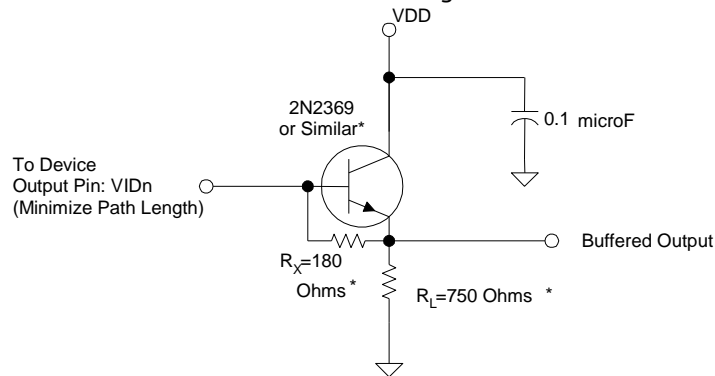

Figure 16: Typical Output Bias/Buffer Circuit
1. A current sink must be supplied for each output. Load capacitance should be minimized so as not to limit bandwidth.  $R_x$  serves as the load bias for the on-chip amplifiers. Values of  $R_x$  and  $R_L$  should be chose to optimize performance for a given operating frequency, but  $R_x$  should not be less than 75 Ohms. Figure 16 below shows one such solution.